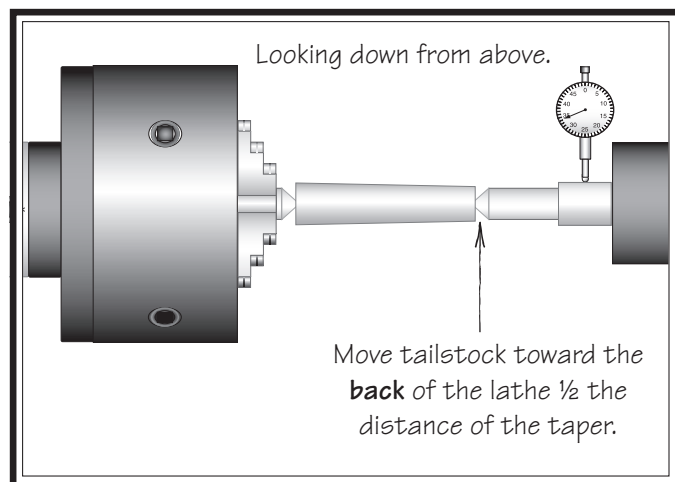

Figure 55. Adjust tailstock away from the operator.
- If the test stock is *thinner* at the tailstock end, move the tailstock toward the *back* of the lathe $\frac{1}{2}$ the distance of the amount of taper (see **Figure 55**).